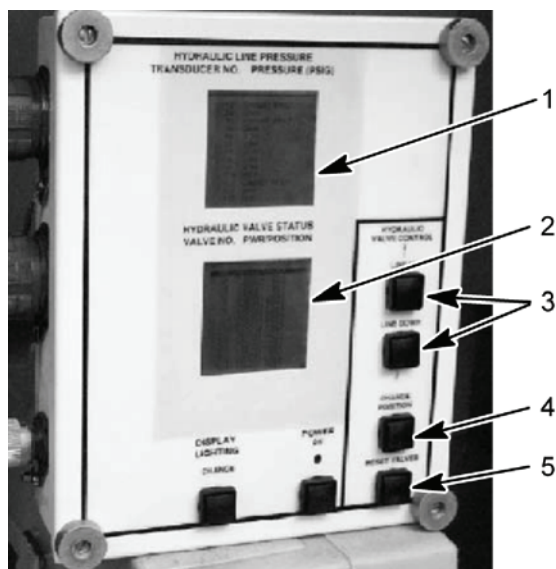

Figure 16. HDC Control Box
- Reset all HDC solenoid valves by selecting the RESET VALVES button (Figure 16, item 5) on the HDC control box.
- To test RIGHT No. 1 front actuator that will not rise; Using LINE UP or LINE DOWN button (Figure 16, item 3) on the HDC control box, select V2 on the HDC display (Figure 16, item 2). Using the CHANGE POSITION button (Figure 16, item 4), close V2 on the HDC display (Figure 16, item 2).
- Start engine and move SPRUNG/UNSPRUNG lever to UNSPRUNG. Read transducer T-11 hydraulic pressure on the HDC display (Figure 16, item 1).
- Using LINE UP or LINE DOWN button (Figure 16, item 3) on the HDC control box, select V2 on the HDC display (Figure 16, item 2). Using the CHANGE POSITION button (Figure 16, item 4), open V2 on the HDC display (Figure 16, item 2).
- To test LEFT No. 1 front actuator that will not rise; Using LINE UP or LINE DOWN button (Figure 16, item 3) on the HDC control box, select V3 on the HDC display (Figure 16, item 2). Using the CHANGE POSITION button (Figure 16, item 4), close V3 on the HDC display (Figure 16, item 2).
- Move SPRUNG/UNSPRUNG lever to UNSPRUNG. Read transducer T-10 hydraulic pressure on the HDC display (Figure 16, item 1).
- Using LINE UP or LINE DOWN button (Figure 16, item 3) on the HDC control box, select V3 on the HDC display (Figure 16, item 2). Using the CHANGE POSITION button (Figure 16, item 4), open V3 on the HDC display (Figure 16, item 2).